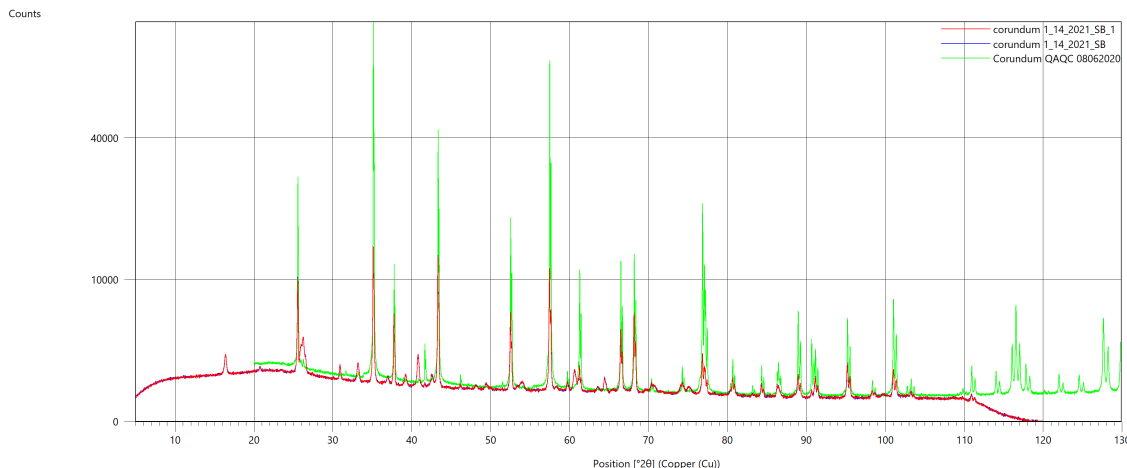

Figure 33. Corundum standard scans on the Aeris. Note the superimposition of the peaks.
- Open the scans on top of each other in **HighScore** and they should line up exactly on top of each other (Figure 33). Over time the peak intensities may reduce slightly and that is normal. PANalytical service technicians advise that when to replace the X-ray tube is at our discretion if we feel the intensities are too low.